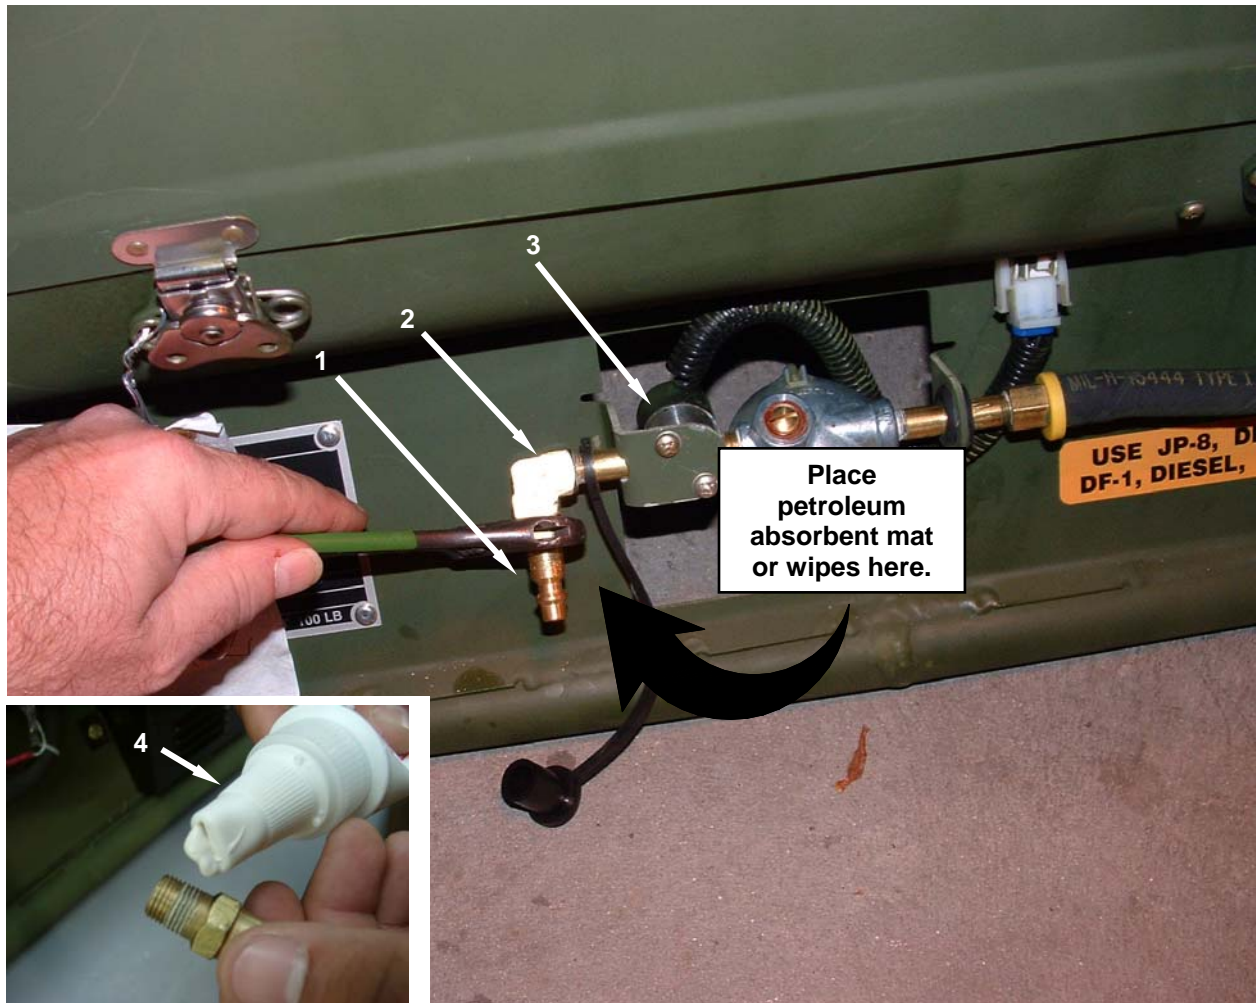

Figure 1. Fuel Supply Quick Disconnect.
Inspect the fuel supply quick disconnect (**Figure 1, Item 1**) to ensure there are no cracks, dents, or other damage that would prevent the external fuel hose from attaching securely to the quick disconnect. There should be no fuel leaks when the fuel hose is attached.
1. To remove the fuel supply quick disconnect (**Figure 1, Item 1**), first place a petroleum absorbent mat under the quick disconnect.
2. Use a wrench and loosen the fuel supply quick disconnect by turning counter clockwise from the elbow fitting (**Figure 1, Item 2**) that is attached to the fuel solenoid valve (**Figure 1, Item 3**).
4. Clean all residual sealant that may be present inside the elbow (**Figure 1, Item 2**).
5. Spread new sealant to the threads (**Figure 1, Item 4**) of the fuel quick disconnect (**Figure 1, Item 1**).
6. Install the fuel quick disconnect into the elbow fitting (**Figure 1, Item 2**). Tighten securely.